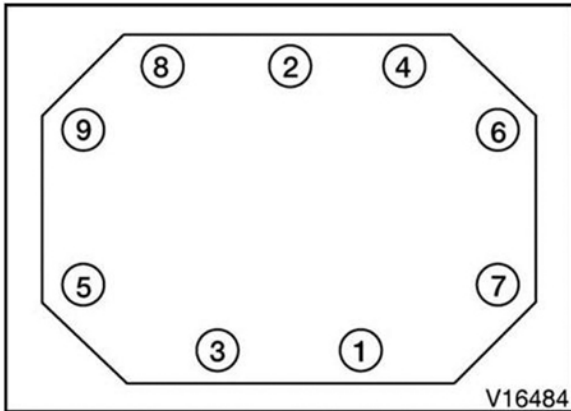

Figure 25 Bolt Tightening Sequence
3. Torque all nine M8 x 30 heat-resistant bolts to 12 lb-ft (16 N•m) in sequence (Figure 25). Repeat sequence and torque to 18 lb-ft (24 N•m).